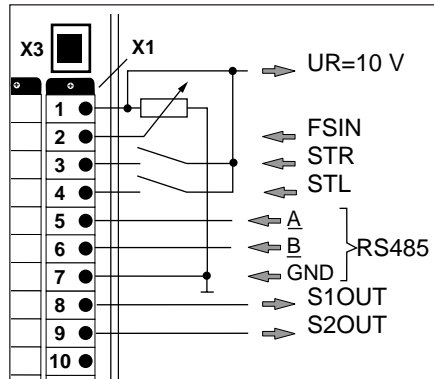

Fig. 2
**Terminal assignment** (also see Fig. 2):